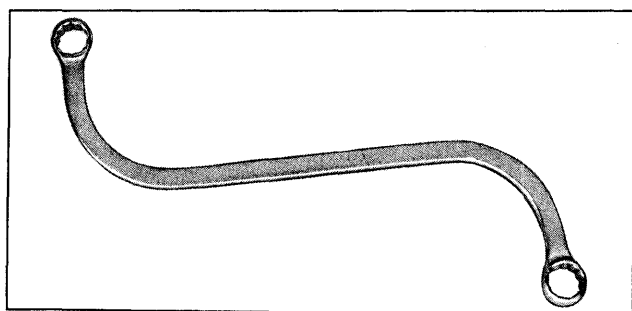

Fig. 6-57—Front Door Hinge Tool J-22729 (9/16" Box) - "B, C & E" Styles
- c. On "B, C & E" body styles, use tool J 22729 - 9/16" wrench (Fig. 6-57).